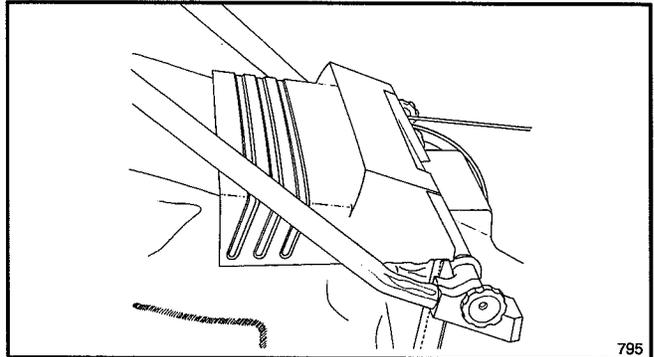

Figure 5
- Allow discharge door to rest on top of bag (Fig. 5).